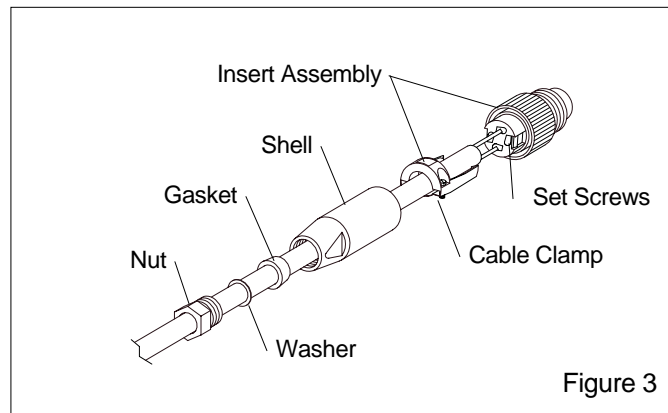

Figure 3
**3.1 Lo-Profile Connector: Ref. Figure 3**